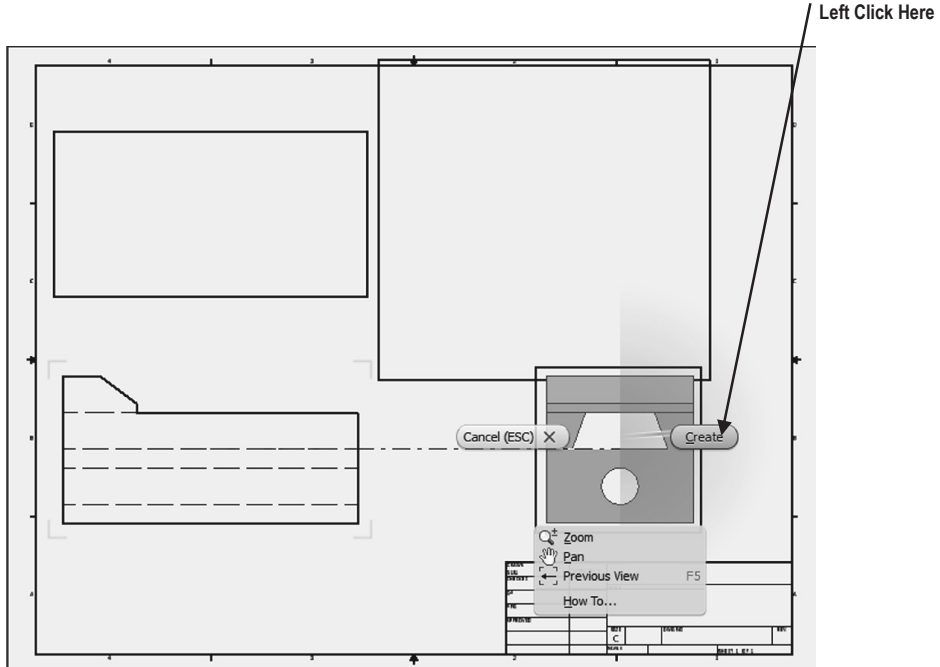

Figure 22
27. Right click on the last view created (side view). A pop-up menu will appear. Left click on **Create** as shown in Figure 22.